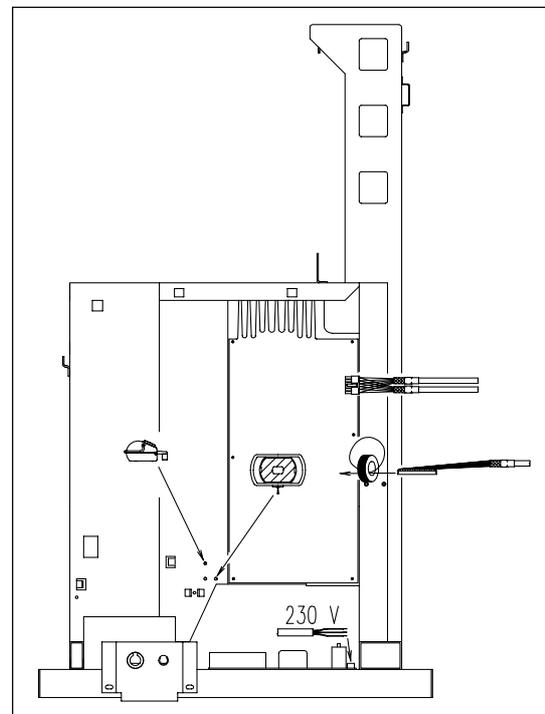

Figure 5. Open unit, seen from PCB side.
- 11) Connect the cables to the MAIN CONTROL printed circuit board at JP17 (signal) and JP21 (power). Loop the signal cable around the ferrite ring as shown in Fig. 5. The cable clips must be tightly fastened to their shields.
- 1) Run the foot control cable into the stand through the hole (Fig. 5).
- 5) Connect the ring terminal to the stand, see Fig. 5.
- 13) Connect the ring terminal to the stand, see Fig. 5.